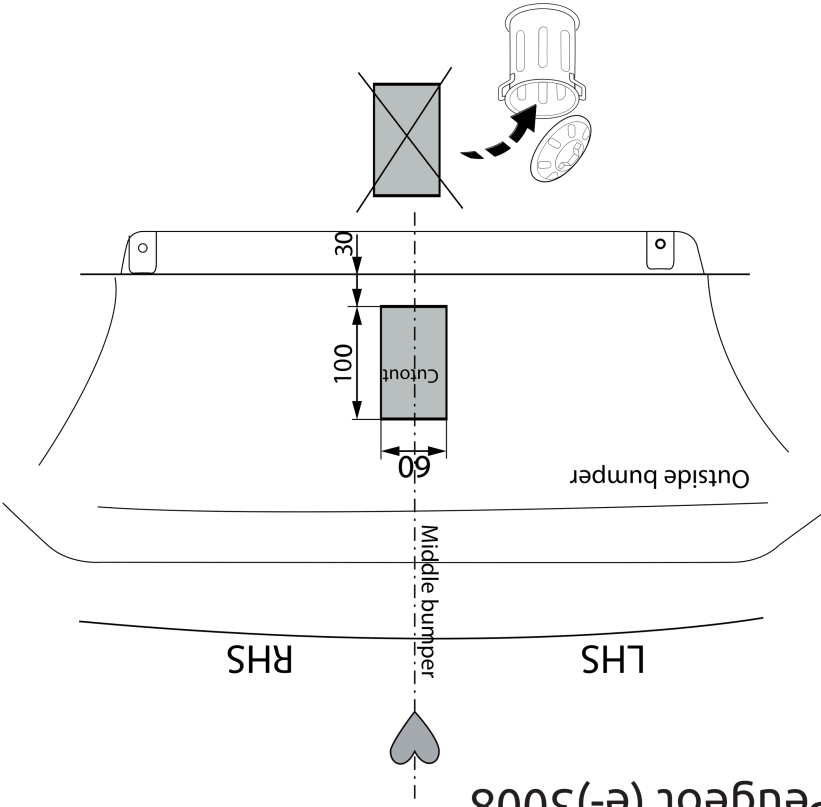

Fig. 4
8. Saw out the portions as indicated in fig. 4 & 5.